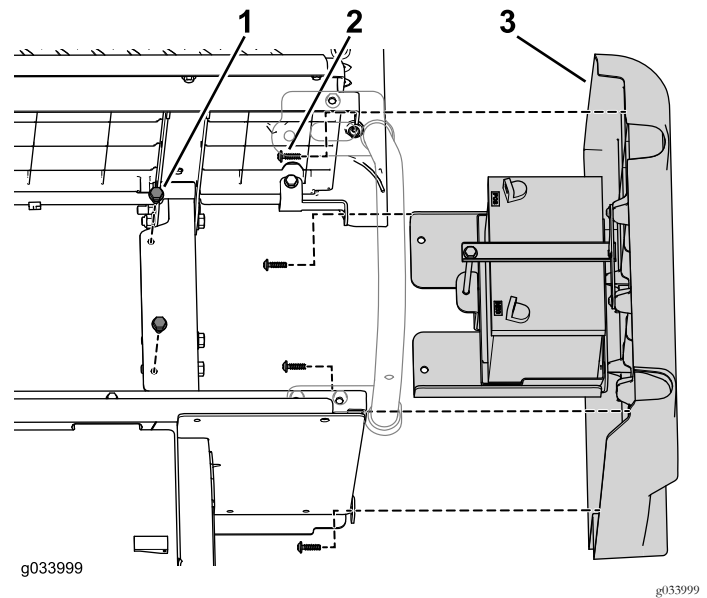

Figure 5
2. Remove the 2 flange bolts that secure the battery tray to the frame (Figure 5).
3. Remove the 4 screws securing the right panel to the lower-seat assembly (Figure 5).